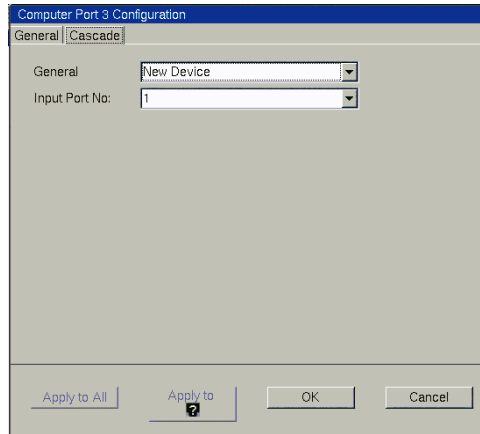

Figure 40 Cascade box
3. Click the Cascade tab. The Cascade box appears see Figure 40.